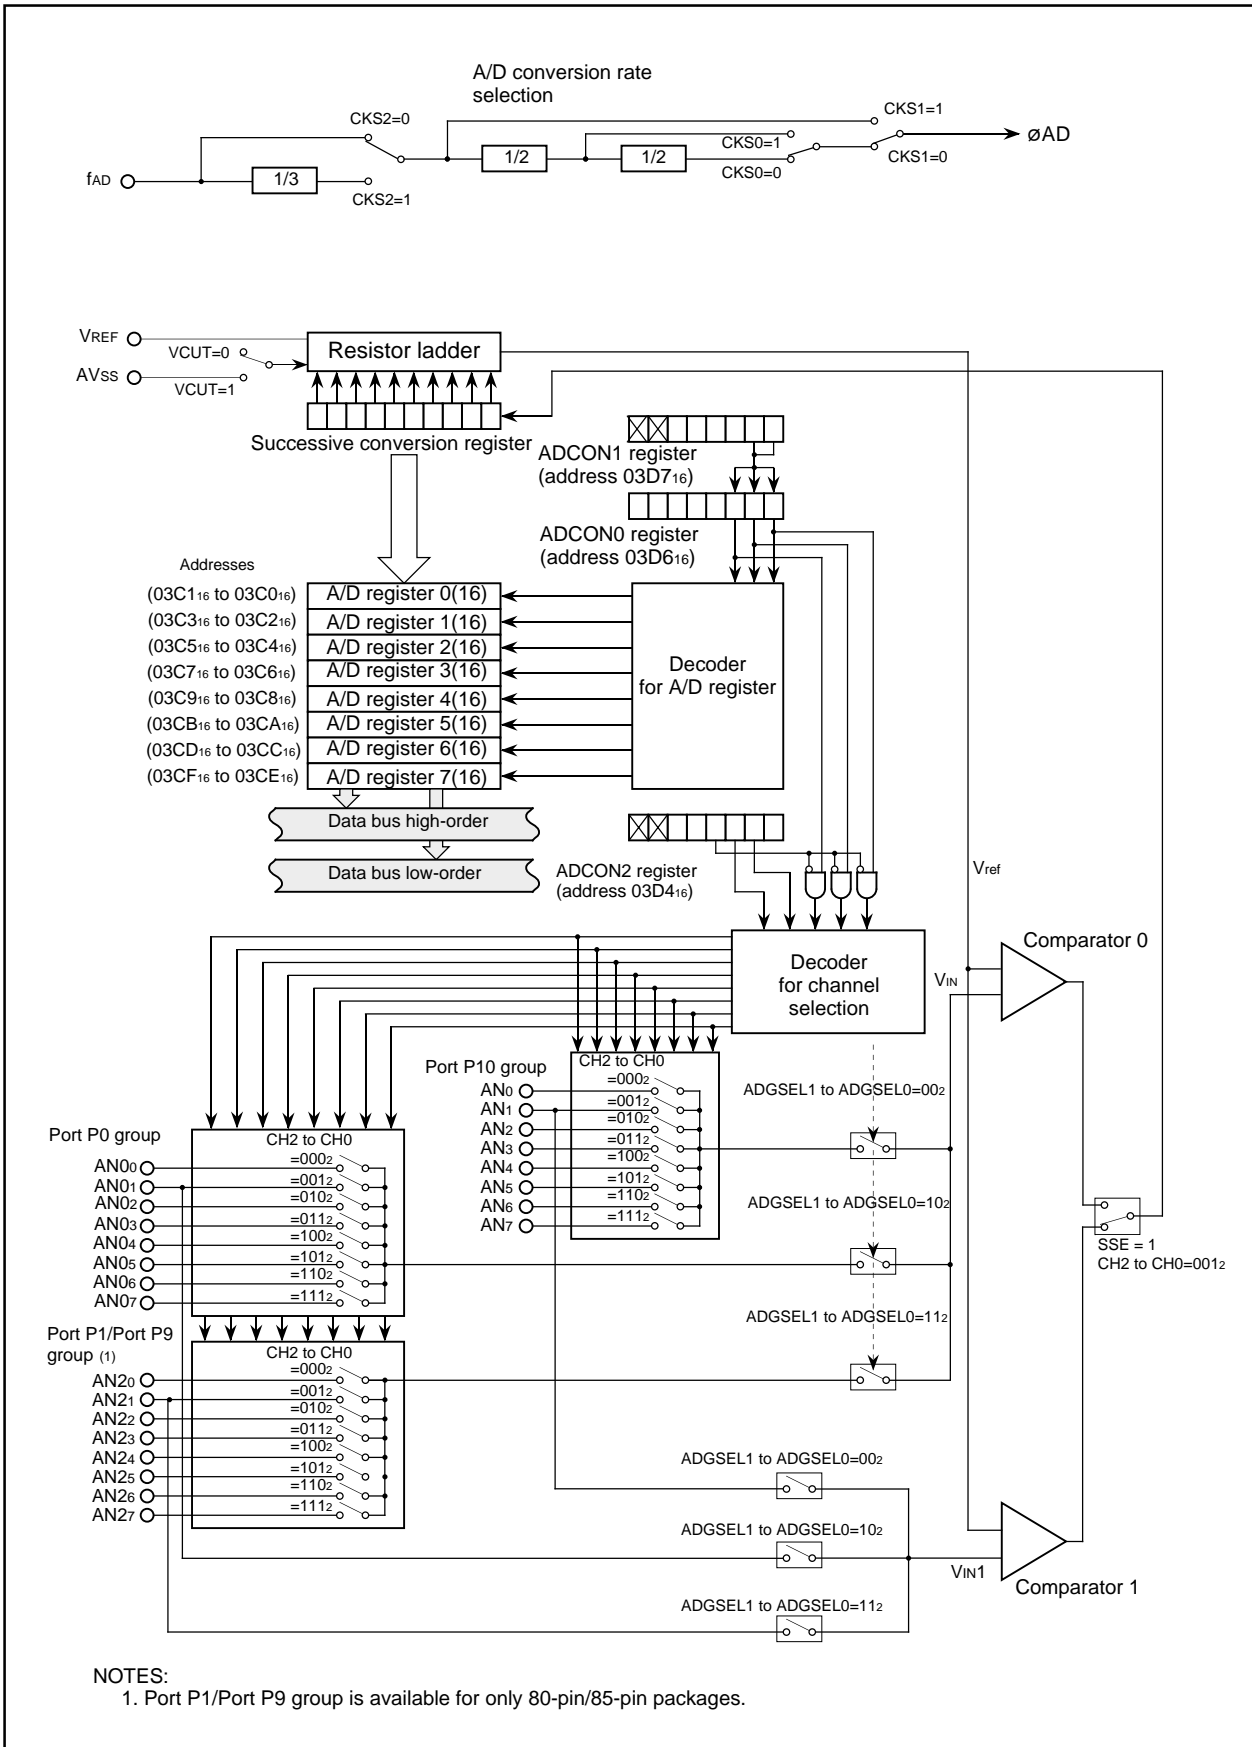

Figure 15.1 A/D Converter Block Diagram
**Table 15.1** shows the A/D converter performance. **Figure 15.1** shows the A/D converter block diagram and **Figures 15.2 to 15.4** show the A/D converter associated with registers.